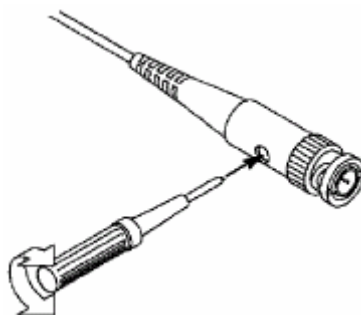

Fig. 6 Adjust Probe
2. Check the displayed wave forms and regulate the probe till a correct compensation is achieved (see Fig.5 and Fig.6).